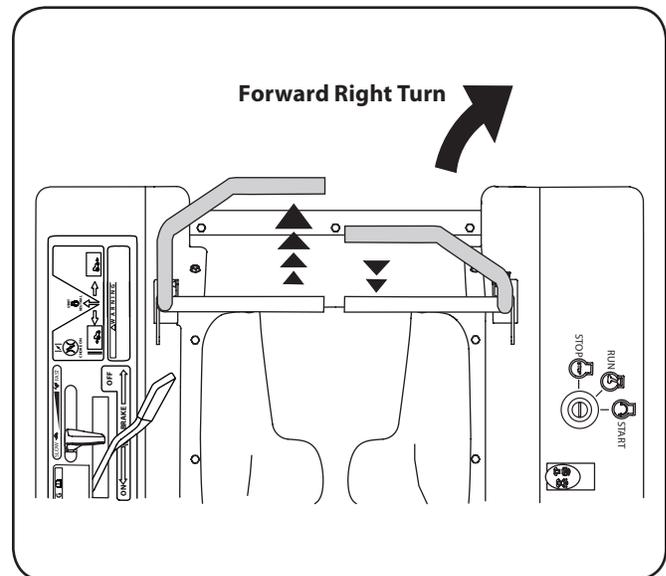

Figure 5-4
2. To turn to the right, move the right drive control lever rearward of the left lever. See Fig. 5-4.